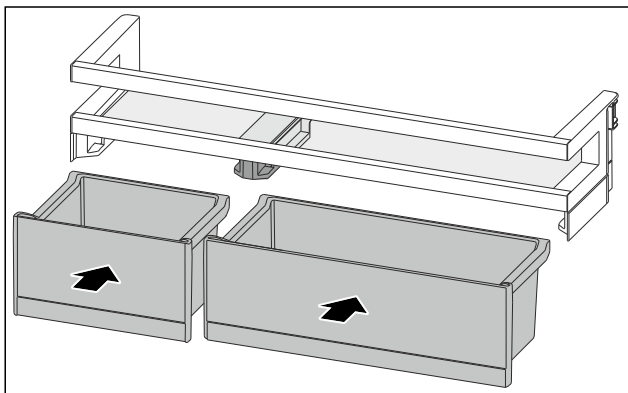

Fig. 119
- Insert the VarioBoxes in reverse order. (see Fig. 119)